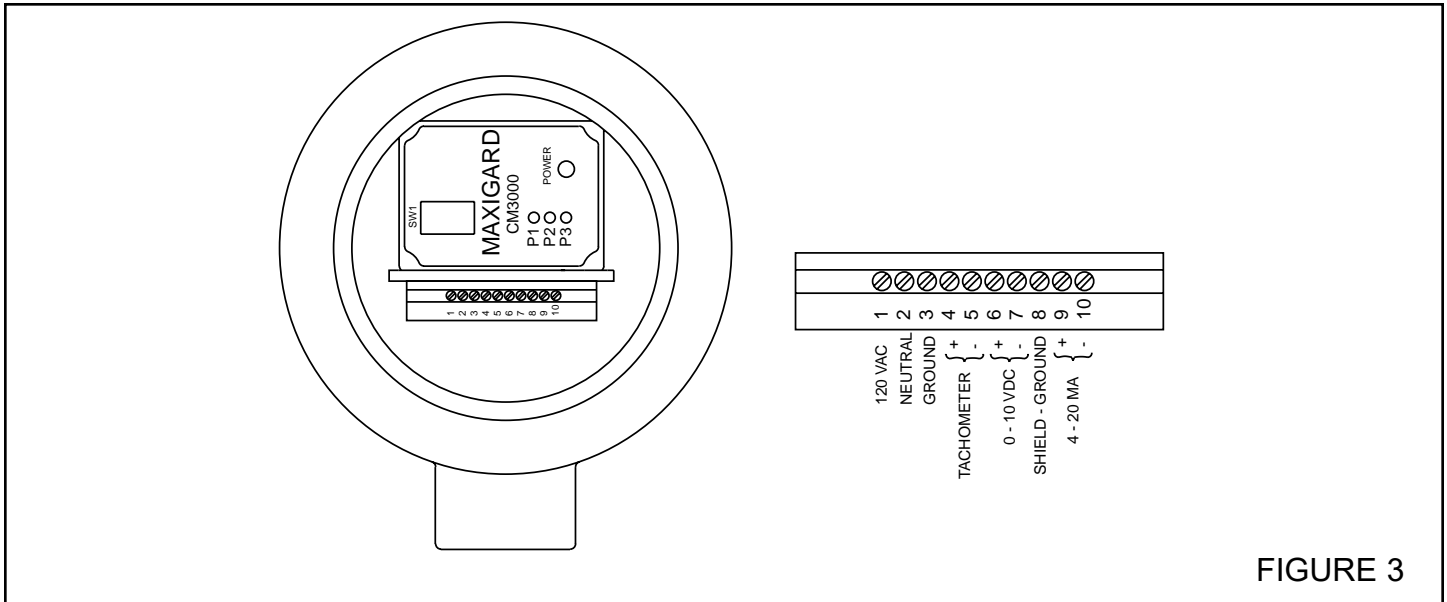

FIGURE 3
- 5.1** Power connections and output connections to the C3000SC-1 Signal Transmitter are shown on figure 3, page 5.
- 5.2** Connect 120 VAC power to 120 VAC and Neutral on terminals 1 & 2 of the C3000SC-1 terminal strip. Connect the equipment safety ground to terminal 3 on the C3000SC-1 terminal strip. (see figure 3, page 5).
(see figure 3, 4, 5 page 5)
(see figure 3, page 5)